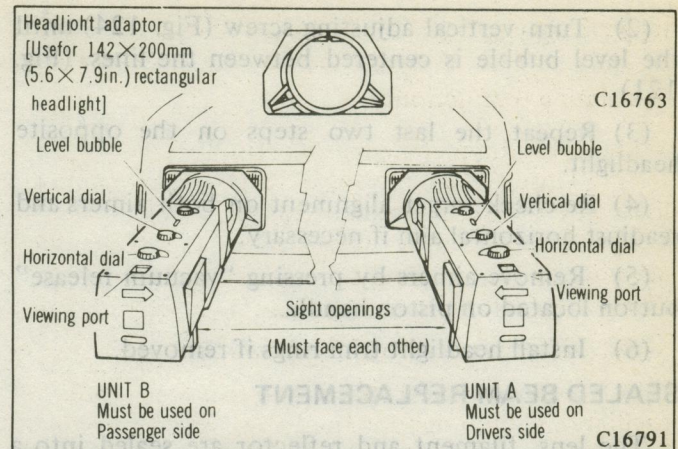

Fig. 123 Mounting and Adjusting Aimers
(1) If necessary to expose adjusting screws remove headlight trim rings.
(2) Snap proper adaptor into position on each aimer.
(3) Position aimers on headlights by pushing piston handle forward, engaging rubber suction cup. Immediately pull back piston handle until it locks in place. (Fig. 123)